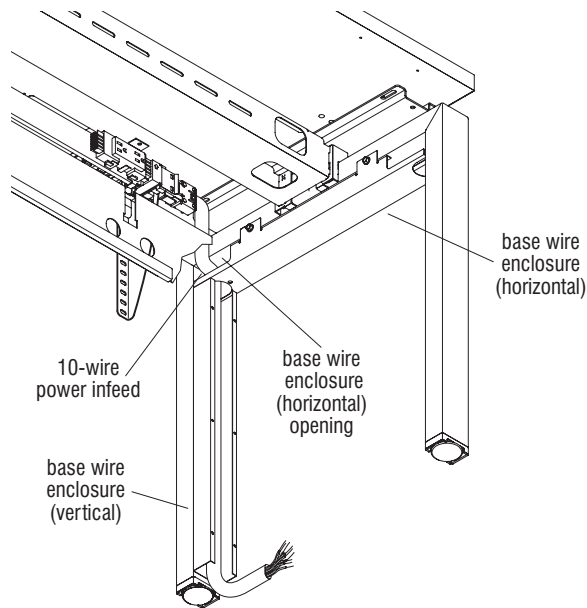

Figure 3
8. If utilizing a power infeed option other than 10-wire electrical, and if it is not in position at this time, do so now by first routing power infeed down through the U-shaped opening of the base wire enclosure (horizontal) and into the base wire enclosure (vertical). Pull infeed through the covers, exiting at floor level (Figure 3).